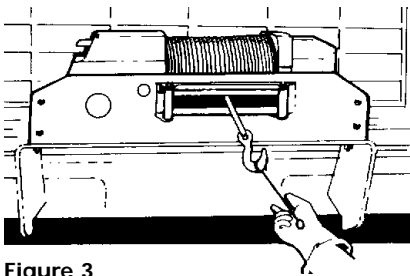

Figure 3
8. KEEP CLEAR OF WINCH WIRE ROPE AND HOOK WHEN OPERATING WINCH. NEVER put your fingers through the hook when reeling in or out the last few feet of rope near the hook. If your finger should become trapped in the hook, you could lose your finger. Use the HANDSAVER BAR (Figure 3) to guide the hook within the last few feet. Never guide a wire rope onto or off the drum with your hand.
27. Your Husky 10 winch wire rope has a ten-foot red "safety stripe" on each end. The "safety stripe" at the end of the wire rope that attaches to the drum warns you that the wire rope is almost completely paid out. DO NOT use the winch for this last ten feet of wire rope since the wire rope end fastener will NOT support a heavy load. The "safety stripe" at the hook end of the wire rope warns you that the wire rope is almost rewound. ALWAYS USE THE HANDSAVER BAR when handling the hook (Figure 3). As you use your winch, the red paint will wear off due to normal wear. When this happens, you should renew the red paint as it is a safety feature of the winch.